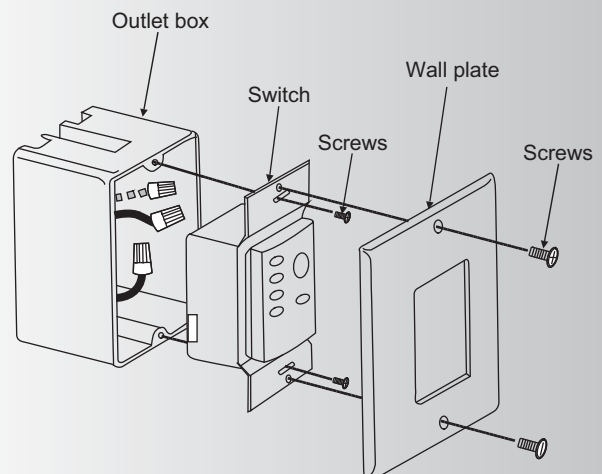

Fig. 25
Step 2. Install the wall plate on the existing wall outlet box using the screws provided. (Fig. 25)